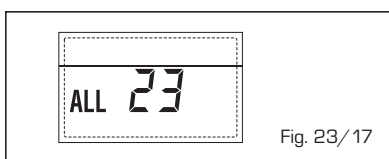

Fig. 23/17
- **SOLAR COLLECTOR SENSOR ANOMALY (S1) "ALL 24" (fig. 23/18)**